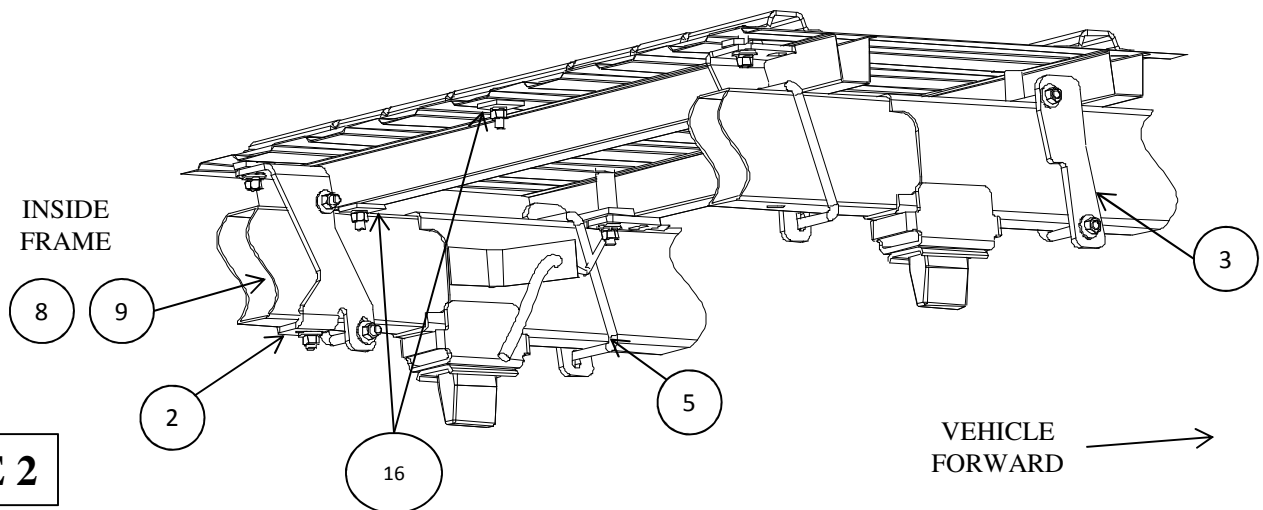

FIGURE 2
- b) Install a u-bolt (5) on each of the brackets (1) (3). The u-bolt wraps around the inside of the frame. Loosely install 1/2 in. conical washers (7) and hex nuts (6) onto the ends of the u-bolts (5). **NOTE: The u-bolt on the driver side must be placed between the brake line and the frame. See Figure 2. Improper placement of the driver side u-bolt may result in damage to the vehicle’s braking system. Move the electric wires out of the way.**